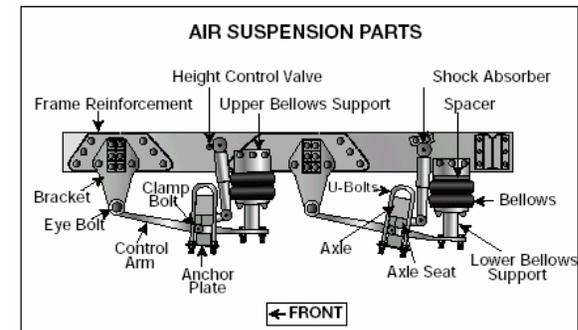

FIGURE 2.4
- Air suspension systems that are damaged and/or leaking. See Figure 2.4.